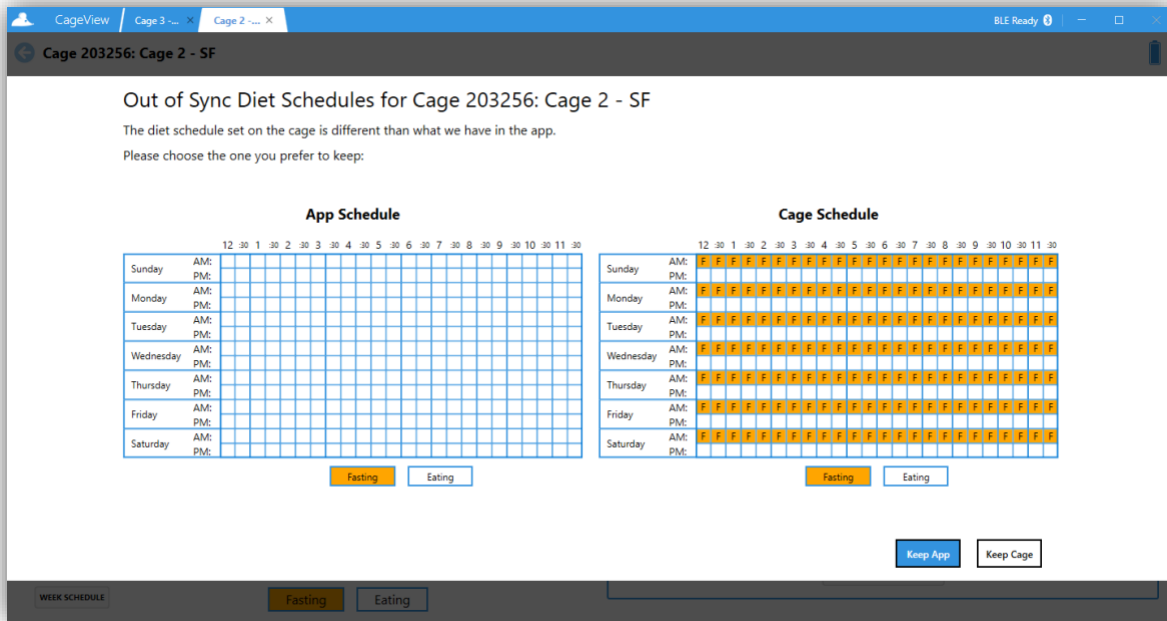

Figure 28. CageView – Out-of-sync diet schedules
5.3.7. The dialogue shown in **Figure 28** will only pop up when there is a conflict between the diet schedule set in the App and the one set on the BLE CageView's board. Two options are provided to keep the App's diet schedule version ("**Keep App**" button) or to keep the one set on the board ("**Keep Cage**" button).